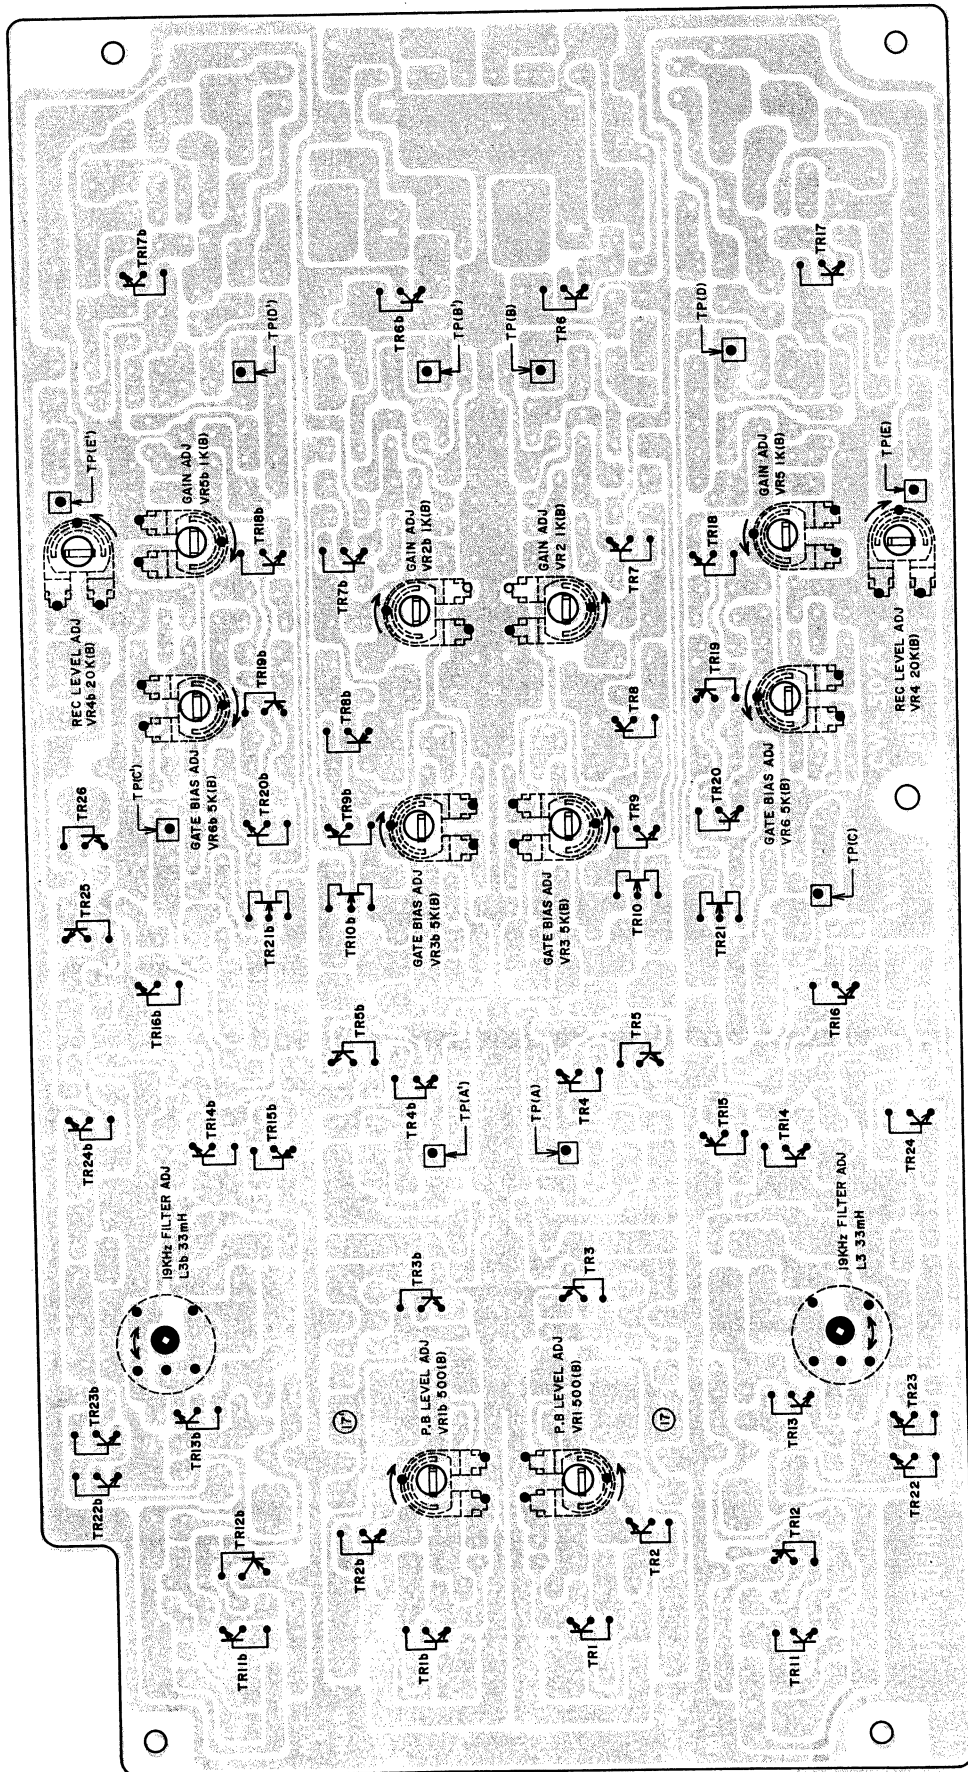

Fig. 9 PRE & DOLBY AMP P.C BOARD CW-5024
- b. Ground test points (C) and (D), and turn adjustment semi-fixed resistors VR-5 1 k(B) and VR-6 5 k(B) as far as they will go in the direction of the arrow marks in Fig. 9.
- d. With the Dolby Noise Reduction Switch at ON position, read level at test point (E).
- e. Disconnect test point (C) from ground and increase (E) point voltage by 10 dB by adjusting semi-fixed resistor VR-5 1 k(B).
- f. Disconnect test point (D) from ground and decrease (E) point voltage by 2 dB by adjusting semifixed resistor VR-6 5 k(B).
- c. Ground test points (A) and (B) and turn adjustment semi-fixed resistors VR-2 1 k(B) and VR-3 5 k(B) as far as they will go in the direction of the arrow mark in Fig. 9.
- e. Supply a 5 kHz signal to terminal (17) and obtain a -20.5 dBm line output level.
- g. Disconnect test point (A) from ground, and adjust semi-fixed resistor VR-2 1 k(B) to obtain a -30.5 dBm line output level.
- h. Disconnect test point (B) from ground and adjust semi-fixed resistor VR-3 5 k(B) to obtain a -28.5 dBm line output level.